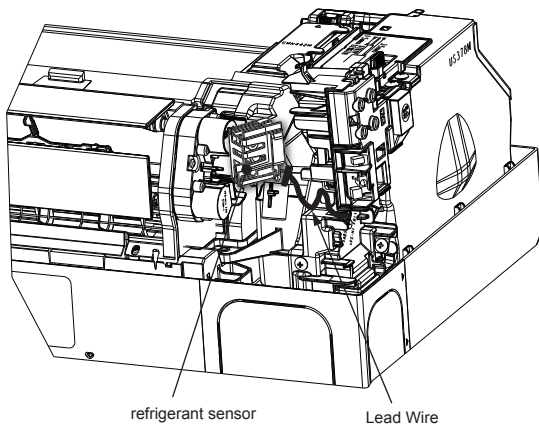

Fig. 3
- 4) Connect the lead wire of refrigerant sensor. (Fig. 3)